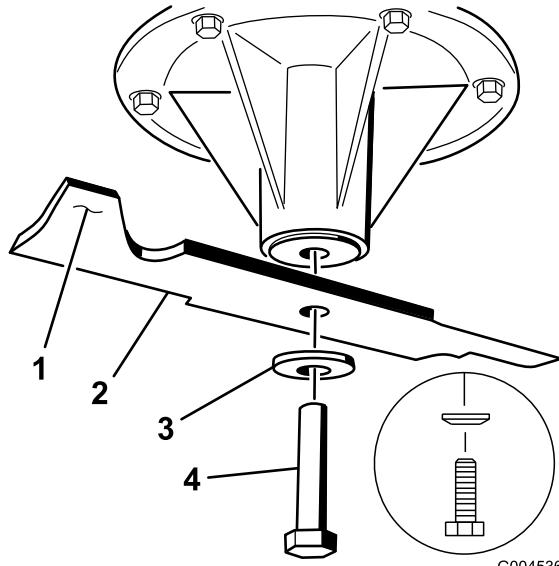

Figure 89
2. Remove the blade bolt, spring disk and blade from the spindle shaft (Figure 89).
horizontal position, the blade is balanced and can be used. If the blade is not balanced, file some metal off the end of the sail area only (Figure 89). Repeat this procedure until the blade is balanced.
1. Install the blade onto the spindle shaft (Figure 89).
2. Install the curved washer and blade bolt. The curved washer cone must be installed toward the bolt head (Figure 89). Torque the blade bolt to 85-110 ft-lb (115-150 N-m).